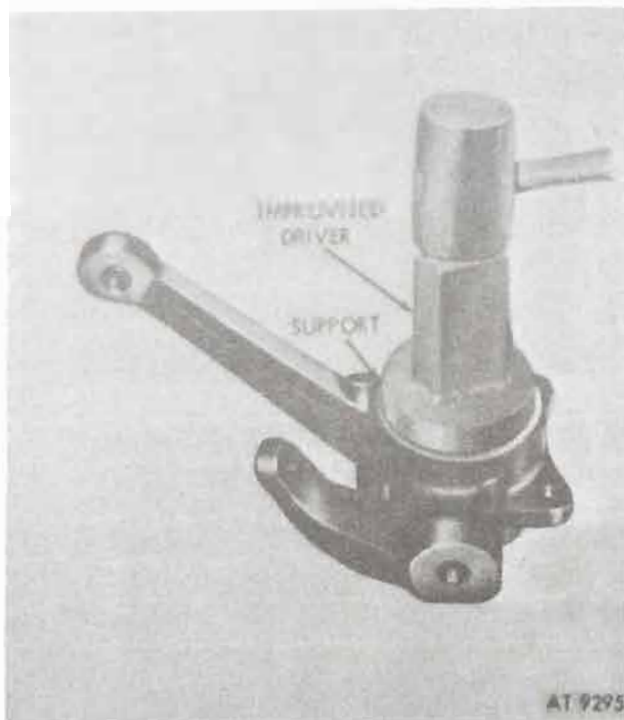

Figure 10-57. Seating inner bearing cup in spindle support.
b. Seat bearing cup in support using improvised driver (fig. 10-57).